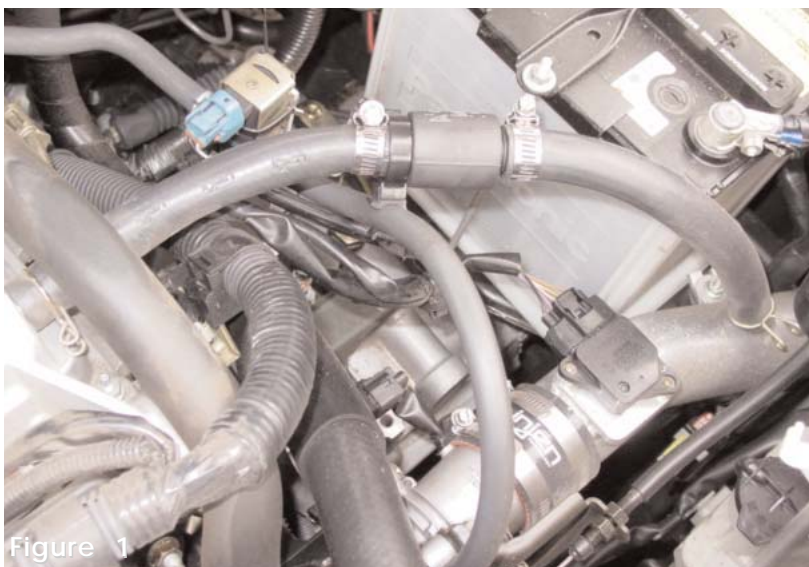

Figure 1
14. Line up the entire intake for best fit. Once proper fitting has been accomplished continue to tighten all nuts, bolts and clamps. Check for any vacuum leaks or any movement on the intake. (See figs. 1 and 16)